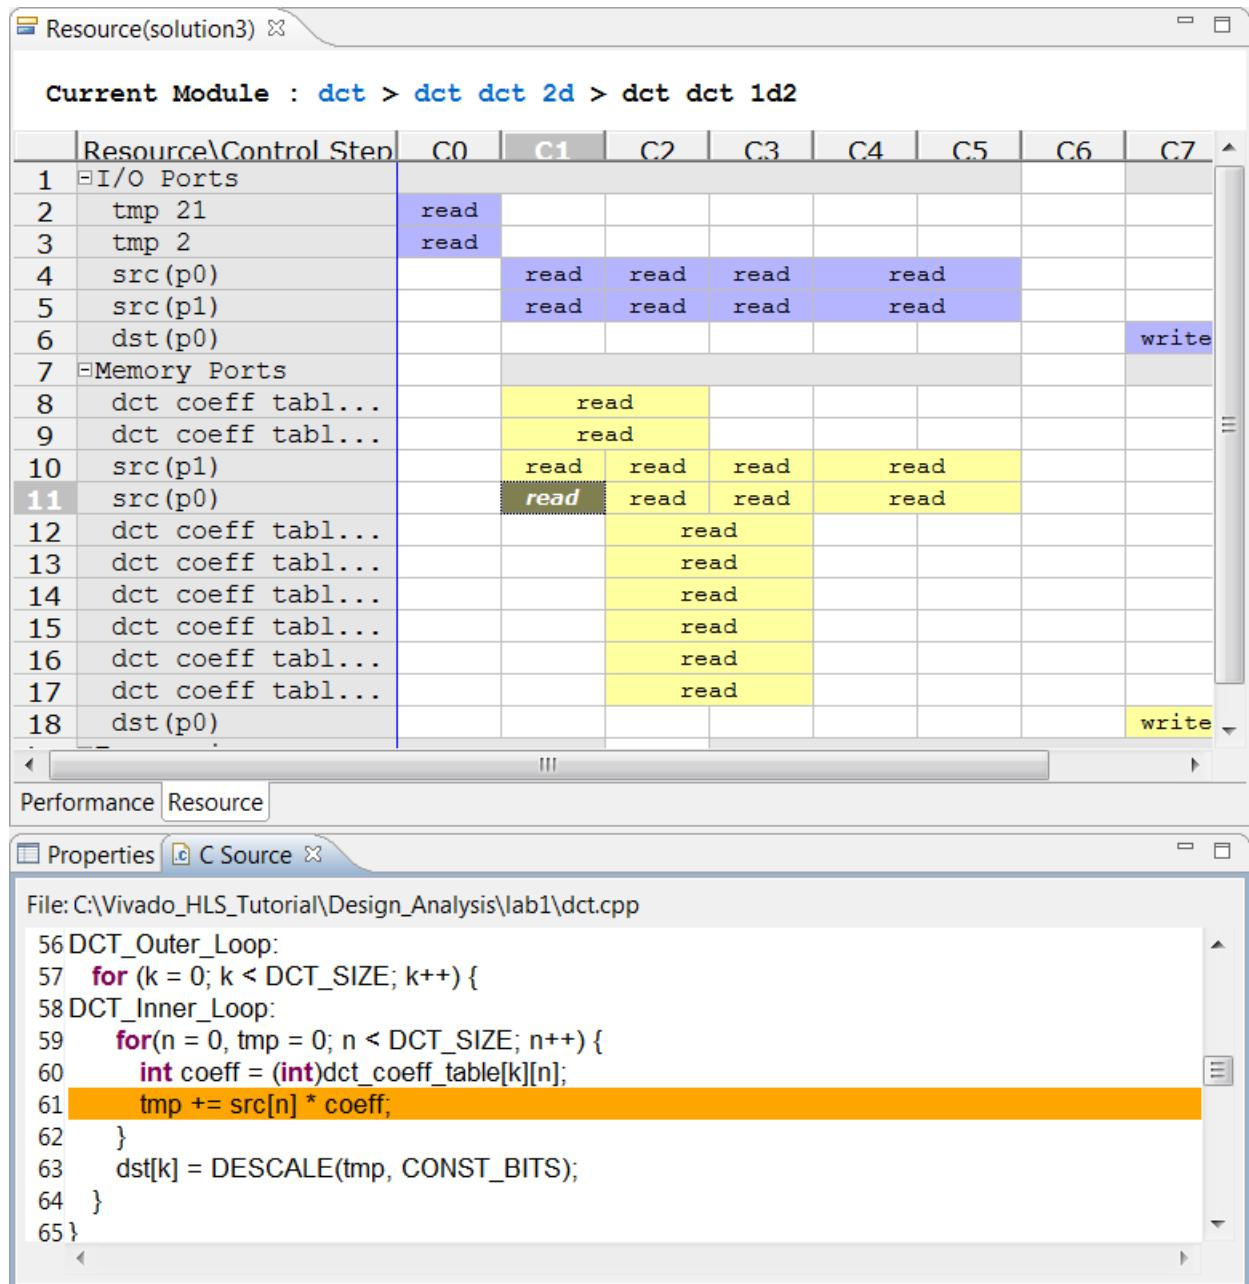

Figure 6-25: Memory Resource SRC and Source Code
19. Right-click and select **Goto Source** to see the view shown in Figure 6-25.
Figure 6-25 shows this read on the `src` variable is from the read operation inside loop `DCT_Inner_Loop`. This loop was automatically unrolled when `DCT_Outer_Loop` was pipelined and all operations in this loop can occur in parallel (if data dependencies allow).
The eight reads are being forced to occur over multiple cycles because the array `src` is implemented as a block RAM in the RTL and a block RAM can only allow two reads (maximum) in any one clock cycle. In Figure 6-25, the read operations take 2 clock cycles: a cycle to generate the address for the block RAM and a cycle to read the data. Only the